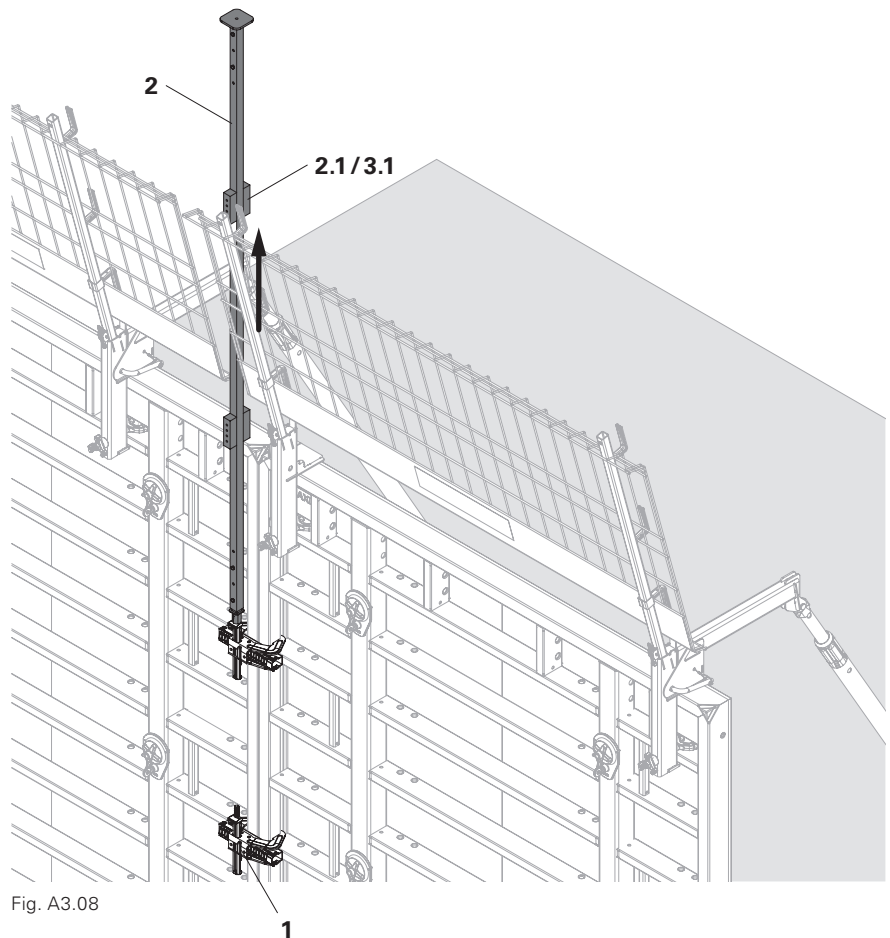

Fig. A3.08
1. Screw Operate Bar MX VS (2) onto Panel Connection Clamp MX VS (1).
2. Unlock the Panel Connection Clamp MX VS (1) with hammer blows on bracket (2.1 / 3.1).
3. Open and remove the Panel Connection Clamp MX VS (1).
4. Unscrew Panel Connection Clamp MX VS (1) from Operate Bar MX VS (2).
- (Fig. A3.08)